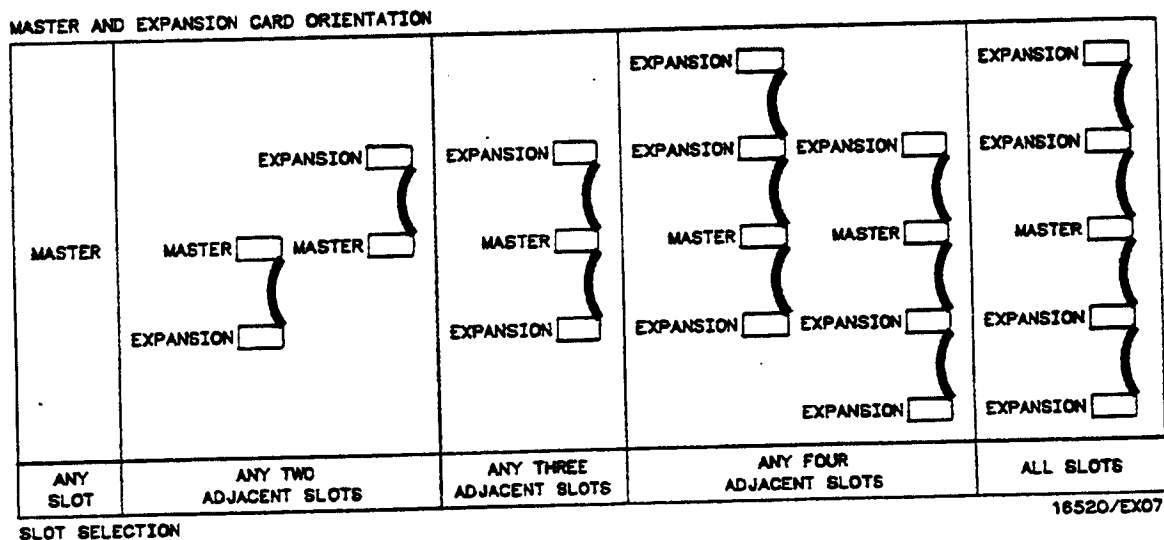
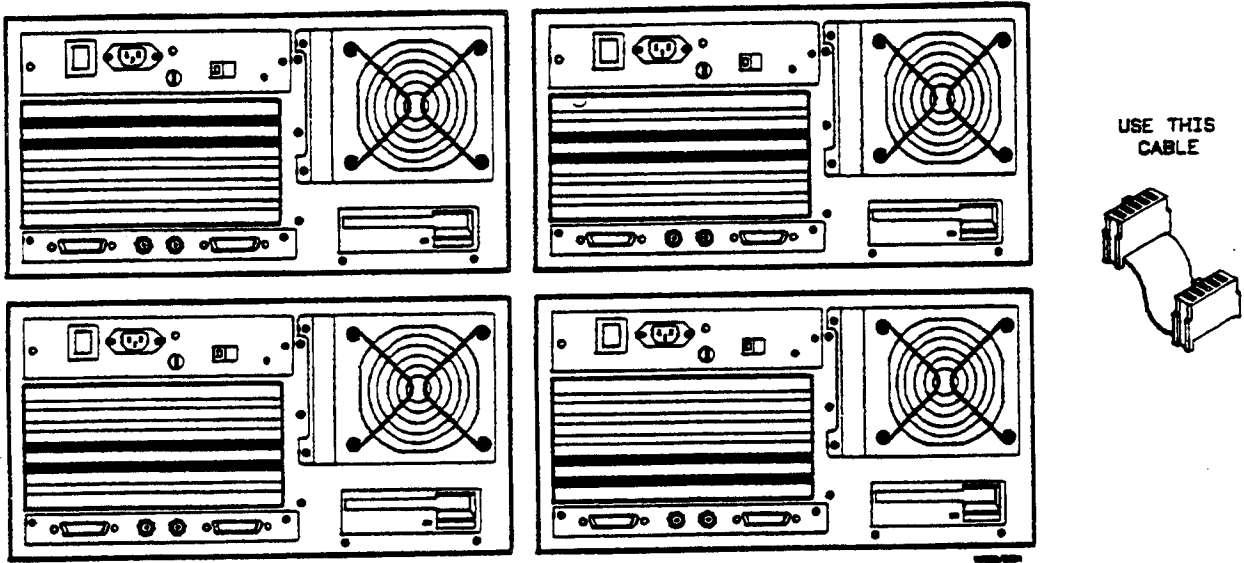

Figure 2-1. Installation Guide
Figure 2-3. One Master and One Expansion Card
- If previously installed modules prevent proper installation, they must be repositioned in the card cage. See figure 2-1.
- To maintain the channel-to-channel skew and adequate intercard signal quality, the shortest intercard connecting cable should be used and the expansion cards should be no more than two slots away from the master card. See figure 2-1.
Figure 2-1 is a guide in choosing the correct intercard connecting cable and illustrates the expansion card position relative to the master card. Use this guide at step d in the following procedure.
- d. If the module consists of one master card, this card can be installed in any available slot. If the module consists of multiple cards, use figure 2-1 and figures 2-3 through 2-6 to plan your card configuration.